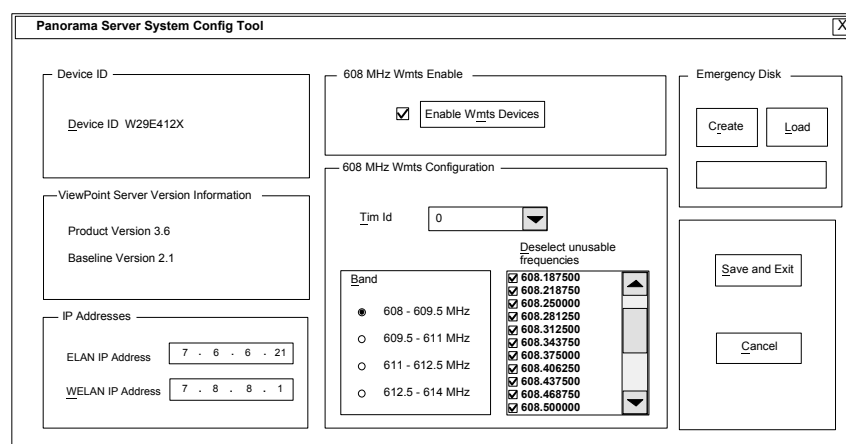

FIGURE 3-1 Panorama Server System Config Dialog Box
5. Click on the CB Config Icon. The Panorama Server System Config dialog box will open (shown in FIGURE 3-1).